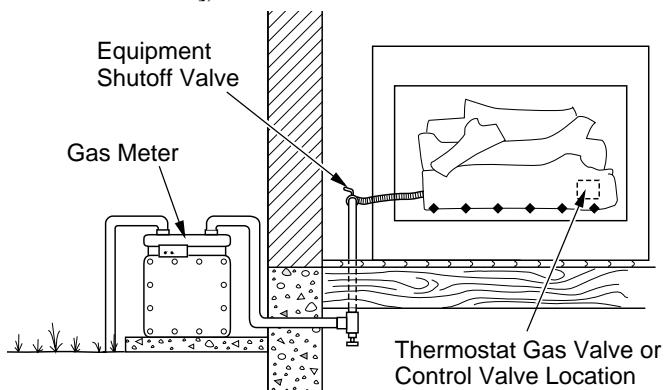

Figure 17 - Checking Gas Joints
4. Check all joints from equipment shutoff valve to control valve (see Figure 17). Apply a noncorrosive leak detection fluid to gas joints. Bubbles forming show a leak.